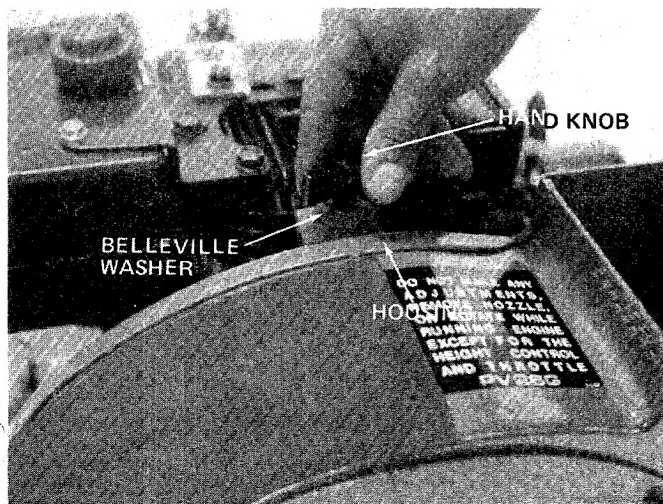

FIGURE 12.
4. Remove the hand knob and belleville washer holding the housing to engine brace. See figure 12.